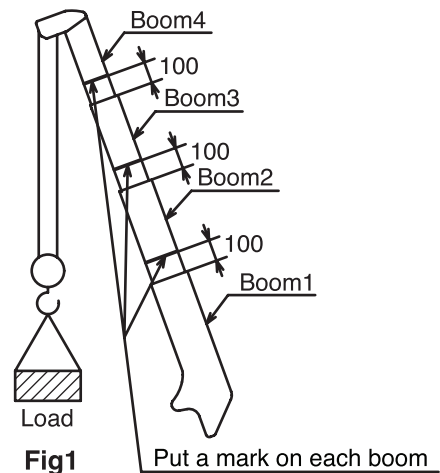

Fig1
- ⑩ Allow booms to be horizontal and extend them fully to put a mark on each boom section (refer to Fig. 1).
- ⑪ Raise booms to their maximum to sling a load.
- ⑫ In order to release pressure remained in the telescoping system, stop the engine and shift the manual lever for telescoping booms.
- ⑬ Remove the retraction hose.